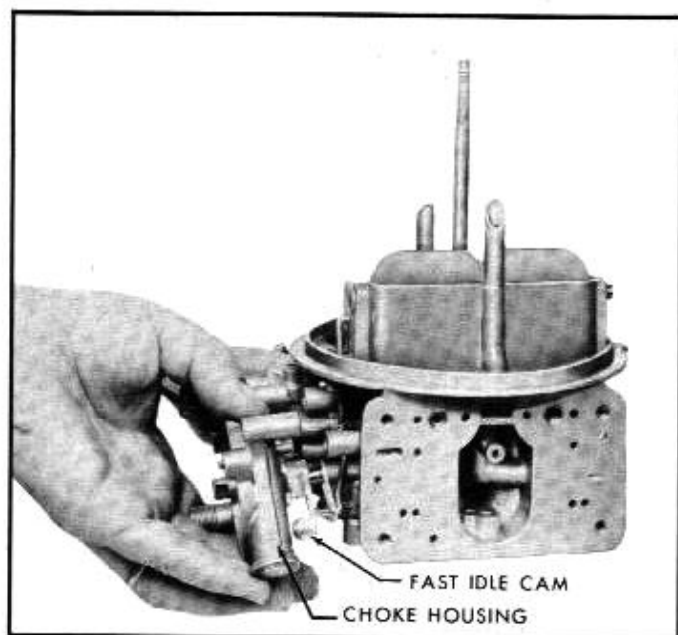

Fig. 9D-34—Removing Choke Housing
6. Remove the three choke housing screws and lockwashers and lift housing, fast idle cam and choke housing shaft off the main body. Discard the two choke housing gaskets. See figure 9D-33.